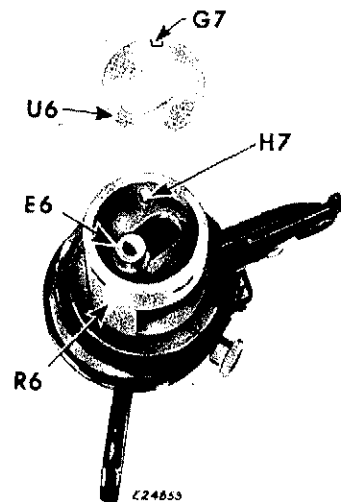

Fig. 142. Placing Thrust Washer in Sleeve
20. Insert bearing sleeve thrust washer **U6** into sleeve **R6** so that its notch **G7** fits over lug **H7** inside sleeve, as shown in Fig. 142.